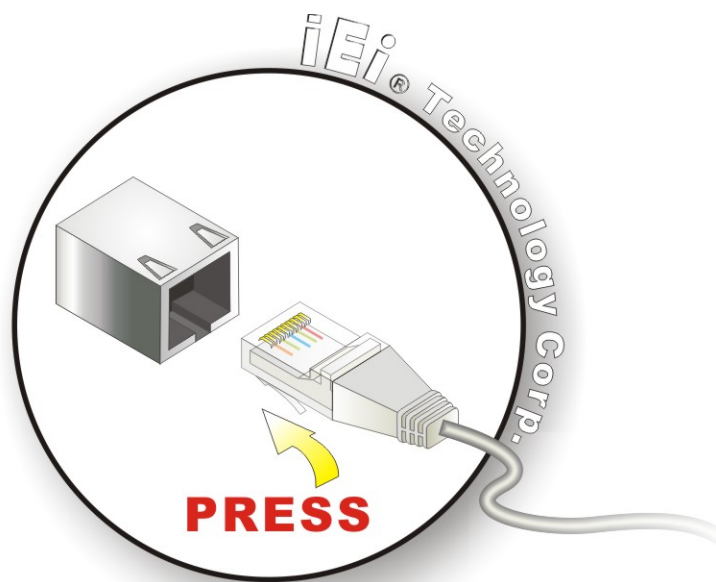

Figure 5-15: LAN Connection
Step 2: Align the connectors. Align the RJ-45 connector on the LAN cable with one of the RJ-45 connectors on the WAFER-LX3. See **Figure 5-15**.